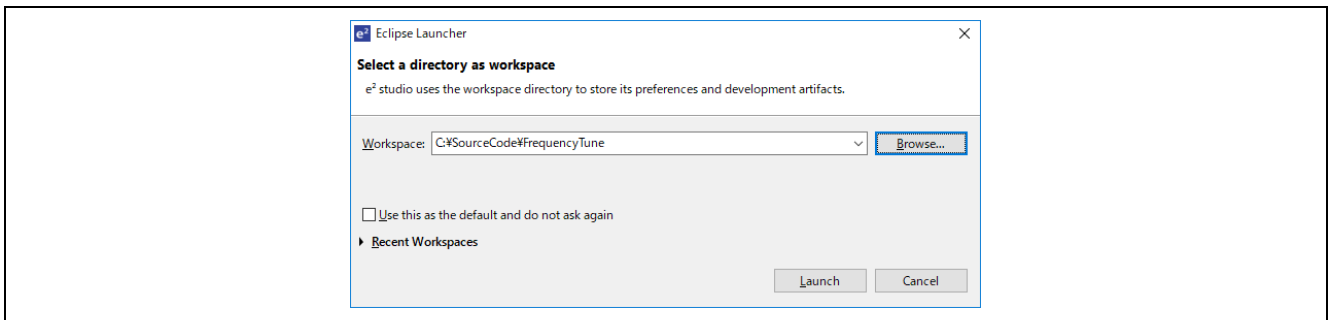

Figure 6-1. Launch e2studio
3. Launch e2studio (Figure 6-1)